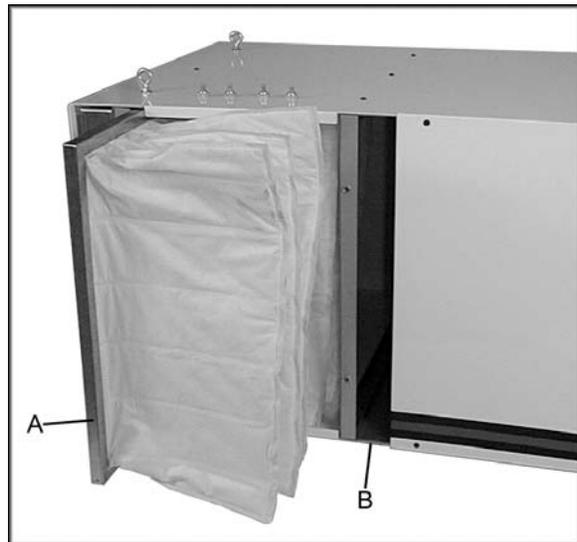

Figure 6
**Inner Filter:** You must remove the two bolts (A, Figure 5) that hold the cover in place. Remove the cover. Remove the inner filter (A, Figure 6) from the side of the cabinet. Replace the cover and four bolts.
**Accessory Filter:** An additional electrostatic filter can be added to this empty slot (B, Figure 6). Replace the cover and four bolts.